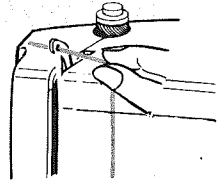

Fig. 4
4. Pull bobbin case straight out of shuttle. (Fig. 4)
4. Thread take up lever from right to left. (See Fig. 4).